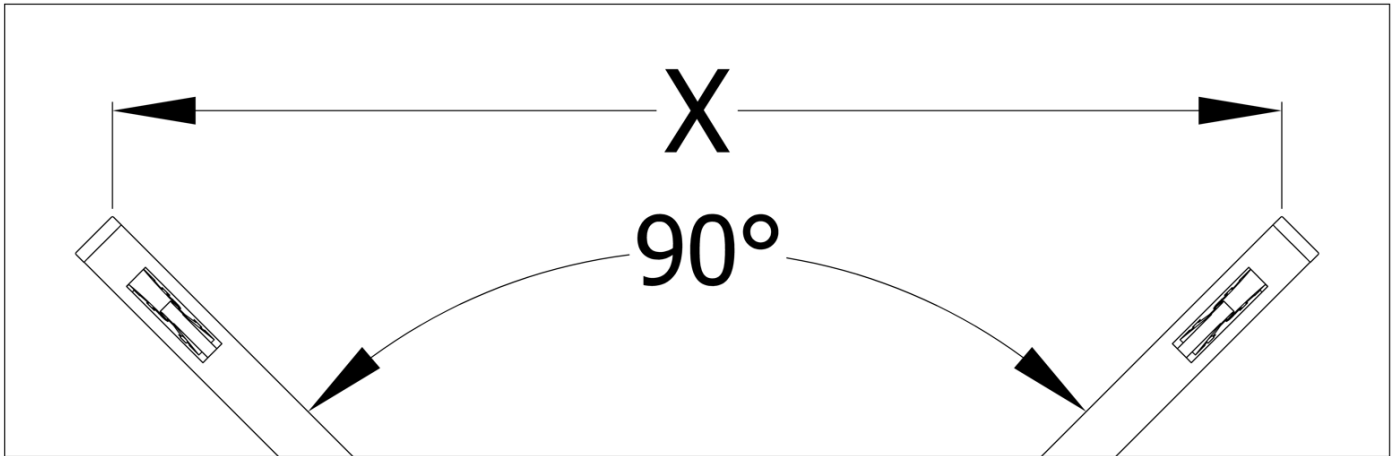

Fig 4. Measure arm dimensions to ensure they are set at 90°.
6. Ensure you've set the arms at 90° by using the dimensions below. (Fig. 4)